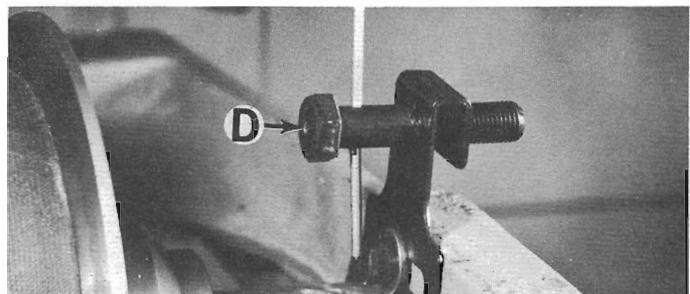

Figure 50 — Indicator Rod Bracket
4. Loosen set screw "D", Figure 50, in motor compartment and remove indicator rod up through headstock.
12. Run pulley carrier to down position. Push stop button. Hold indicating rod at 125 R.P.M. and tighten set screw "D", Figure 50.